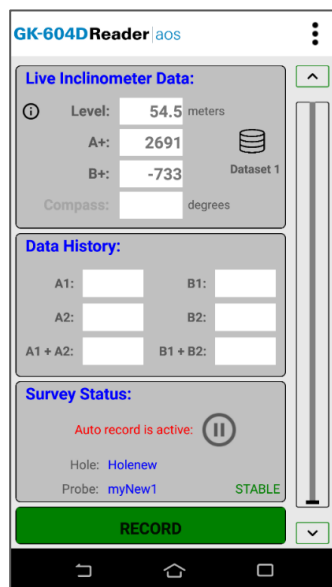

Figure 28: Auto Record is Active
To activate the “Auto Record” feature, tap on the  icon. The “Play” icon to the right of the red message status text will be replaced with a “Pause” icon and the red text status message will change to “Auto record mode is active”. If the readings are stable, the first reading will automatically be recorded (Figure 28).
- 3) Tap on the  icon to activate the “Auto Record” feature. The red status text message will change to “Auto record is active” and the “Play” icon will change to the “Pause” icon. If the readings are stable, the initial A & B readings will be taken and a “beep” sound should be heard, confirming that the readings have been stored (see Figure 28). If no beep is heard, tap the “volume” control at the top of the screen and adjust the volume.